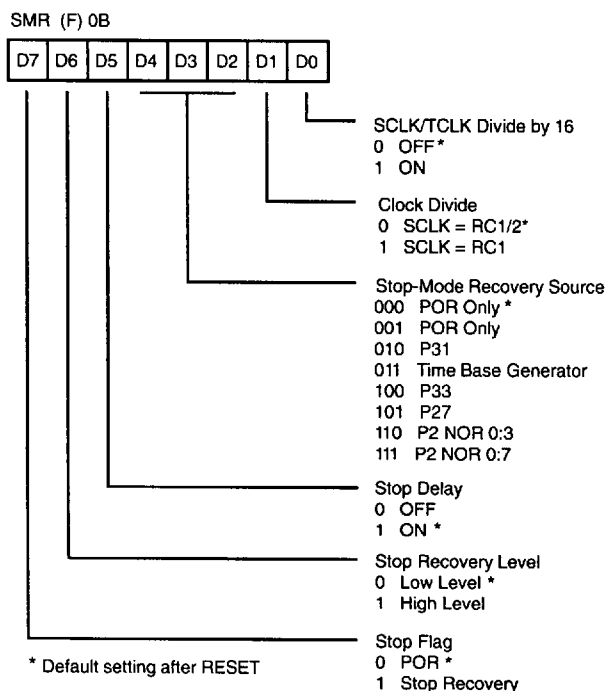

Figure 21. Stop-Mode Register
**Stop-Mode Recovery Source (D2,D3,D4).** These three bits of the SMR specify the wake-up source of the Stop-Mode Recovery (Figure 21 and Table 8).